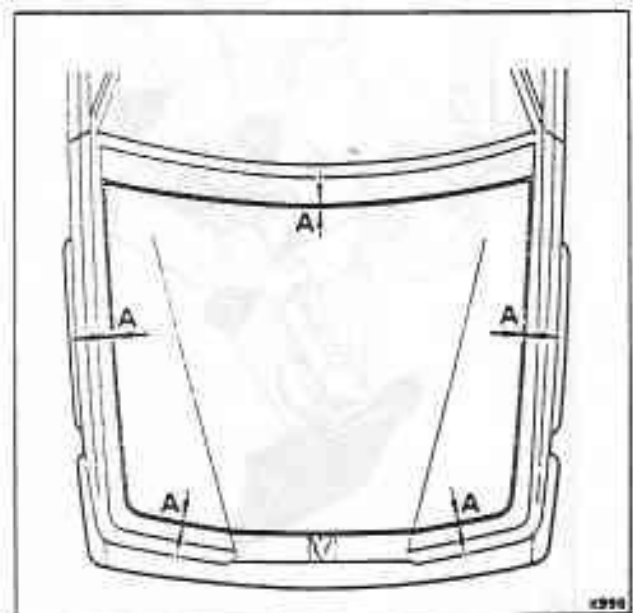

Fig. S12-2 Bonnet clearances
2. After fitting the bonnet, check the bonnet to body clearances (see fig. S12-2). If necessary, slacken the securing bolts and move the bonnet until the correct clearances are obtained. Tighten the setscrews.
bonnet to the hinges, ensure that the bonnet to body clearances are correct (see fig. S12-2). Also ensure that the bonnet will open and close satisfactorily (see Bonnet - To fit).